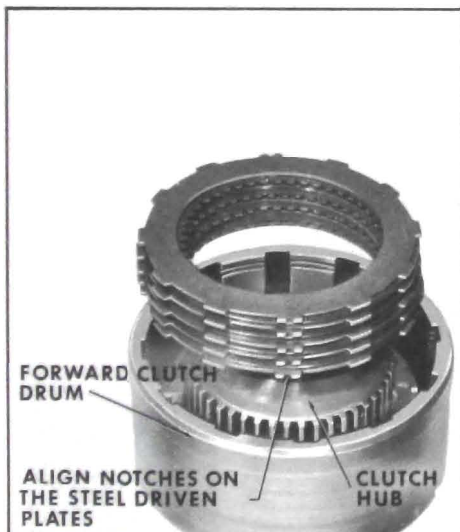

Figure 5-235
9. Align notches on steel driven plates. Install steel driven plates and lined drive plates alternately, beginning with a steel driven plate. See Figure 5-235.